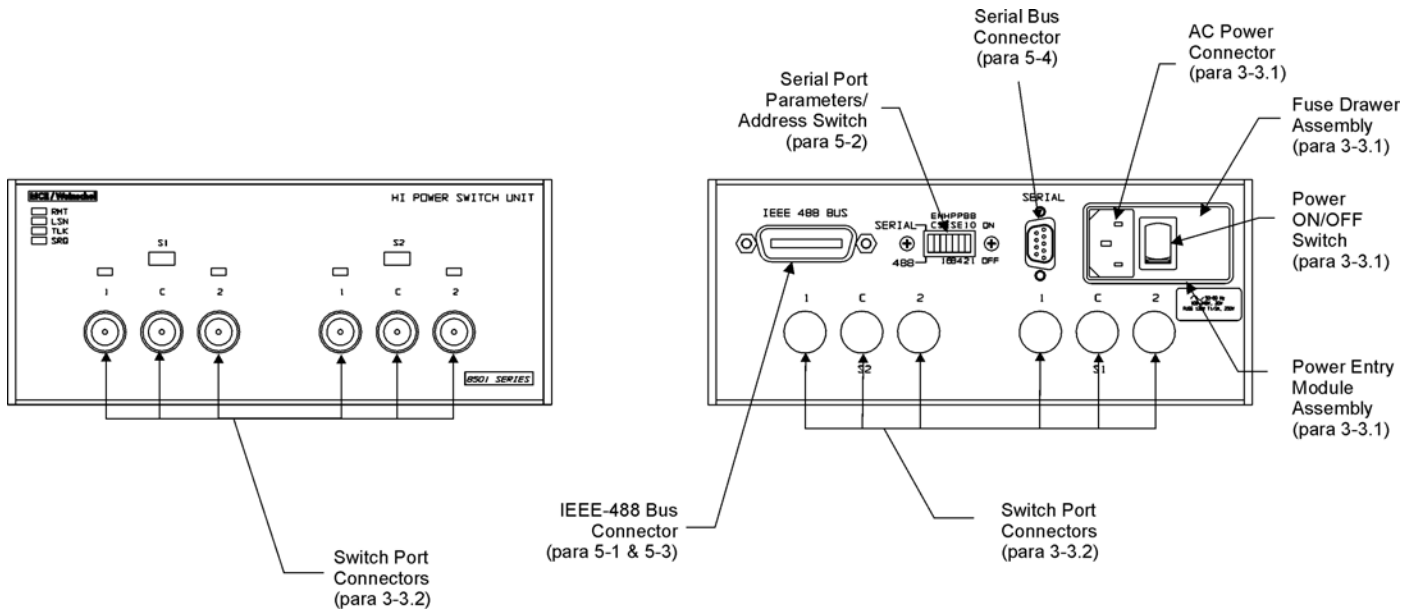

Figure 1. Front & Rear Panel Connectors
**3-3 INPUT/OUTPUT OPTIONS:** The following paragraphs provide a description of the connections that can be made to the 8501 Series Switch unit. Figure 1 shows the location of these connectors and switches.
**3-3.1 POWER ENTRY MODULE ASSEMBLY:** The Power Entry Module Assembly located on the rear panel contains a three-prong ac power input connector and a fuse drawer assembly (Figure 1). The **Fuse Drawer Assembly** contains the line voltage fuse (Weinschel P/N 052-1-1.5). The Model 8501 uses a T 1.5A, 250 Vac fuse which is 5 x 20 mm in size. Refer to paragraph 6-4 for replacement of the fuse.
The **AC Power Connector**, located on the left side of XF1 (Figure 1), is a plug-type, prong insert connector with three conductors for connection of the power cord (P/N 068-21) to the Power Supply Assembly located within the Switch unit. This connector also grounds the chassis of the Switch unit when the ac power cord is connected to a grounded wall outlet. If necessary, use a three prong to two-prong adapter and connect the adapter's ground lead to the outlet plate retaining screw.